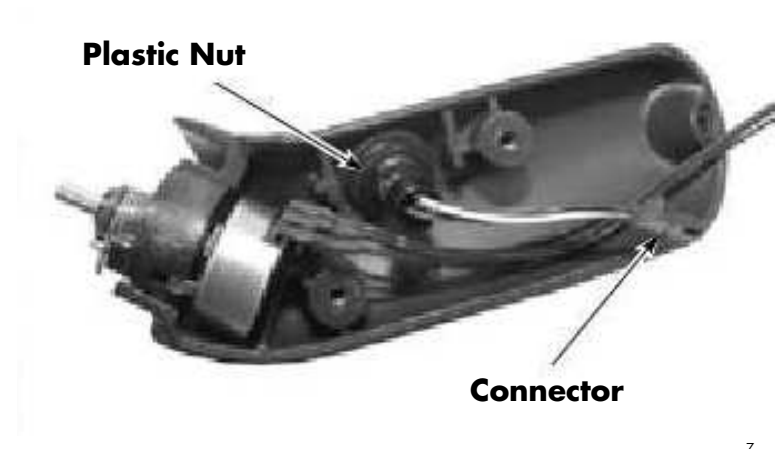

Figure 7-13. Horn Switch Removal
1. Disconnect the horn switch connector. See Figure 7-13.